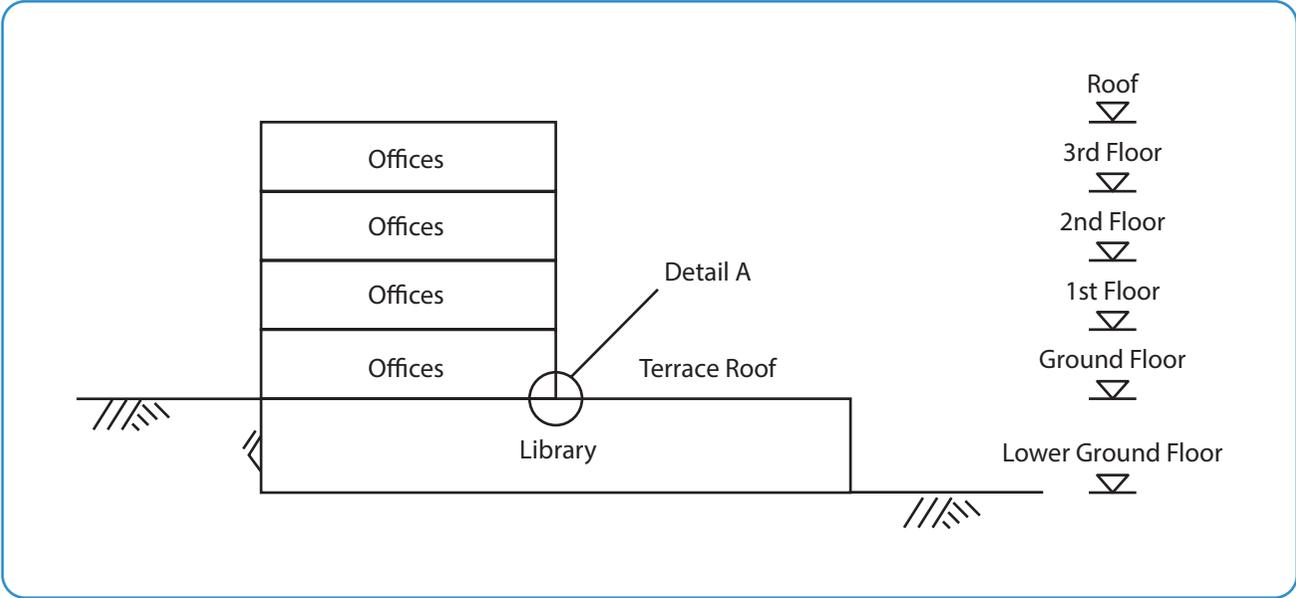

Figure 2: Section A-A
- vii. Detail A shown on Figure 2.